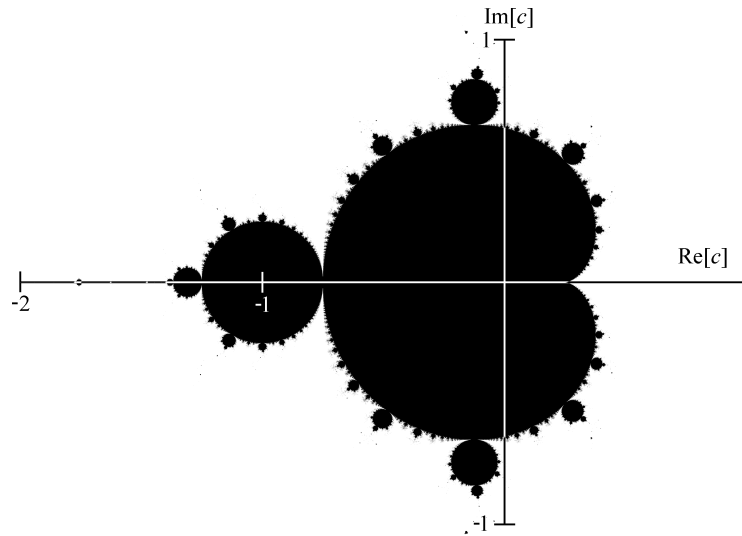

Figure 4: Mandelbrot with real- and imaginary-axis. Note the symmetry along the real-axis.
- The starting-point for c (`C_RE_0` and `C_IM_0`) is at $(-2, -1)$ on the complex plane, but since the Mandelbrot set is symmetric around the real-axis as shown in Figure 4, it makes no difference for plotting it. That is, starting at $(-2, -1)$ and $(-2, 1)$ can be considered equivalent, but starting at $(-2, -1)$ means that we only need to add the increments to the starting point, instead of subtracting the increment for the imaginary axis as we would have to do if we start at $(-2, 1)$.